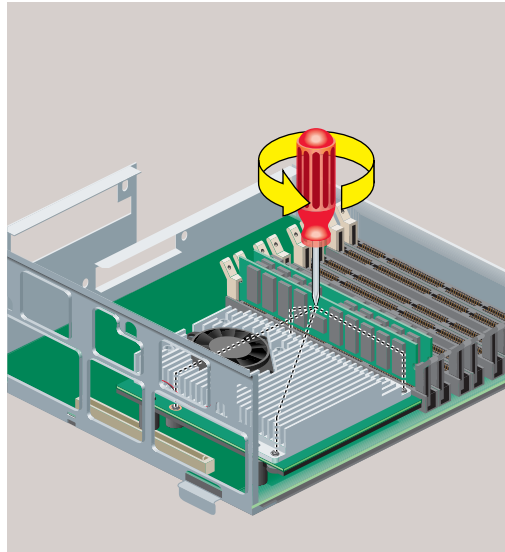

Figure 5-13 Removing the Screws From the R10000 CPU Module
6. Locate the R10000 CPU module. It is protected by a metal heat sink (Figure 5-13). *Do not remove the heat sink.*
7. Use a Phillips screwdriver to remove four screws from the locations shown (Figure 5-13).